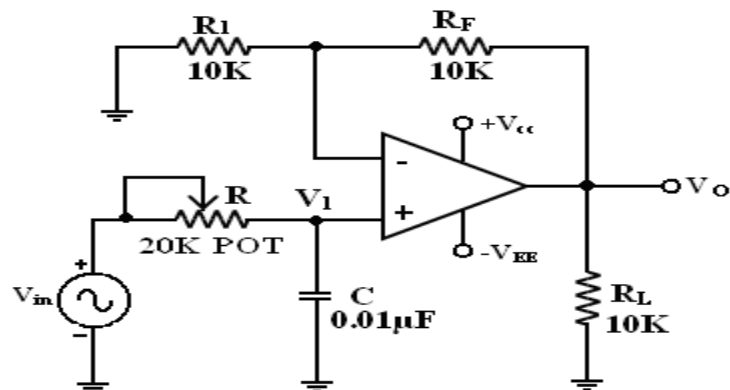

Figure 10.2 Circuit diagram of First order Low pass Butterworth filter
2. Connect the circuit as per the circuit diagram show in fig 10.2.